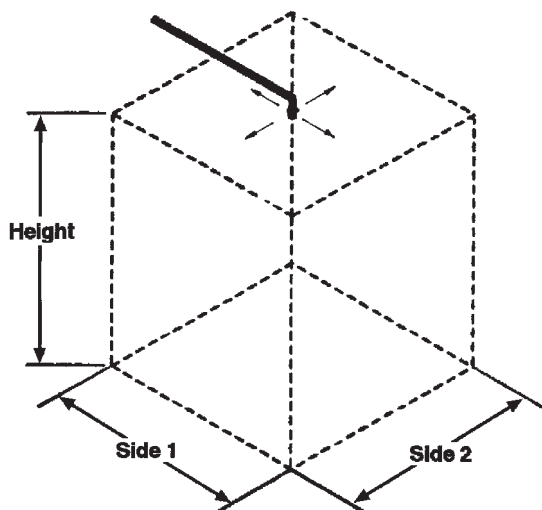

FIGURE 1
The nozzle is to be mounted in the center (see Note) of the protected area, with the discharge holes in the nozzle no greater than six (6) in. (15.2 cm) from the ceiling. For duct protection, the nozzle is to be mounted in the center. See Figure 1.